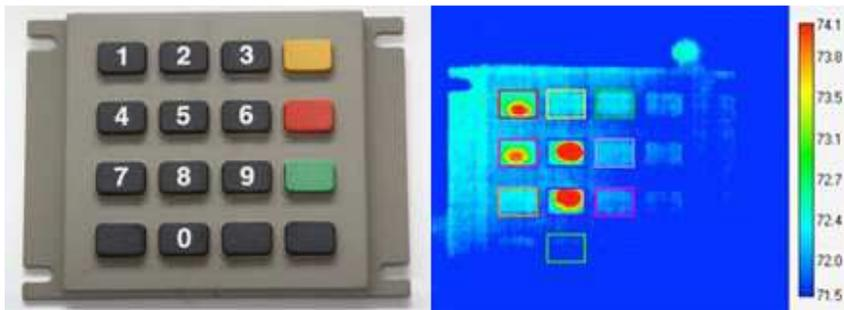

Figure 2. Example showing thermal image of keypad following PIN entry.
- Thermal imaging to capture residual heat on pressed keys (see Figure 2).